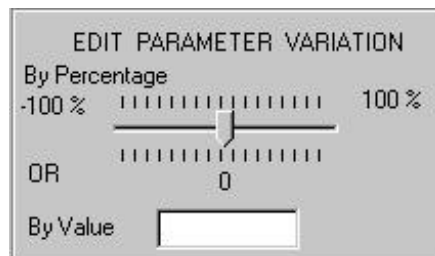

Figure 13.38
6. Select one parameter in the table by clicking on the parameter name. Another section of the dialog box is enabled (Figure 13.38).